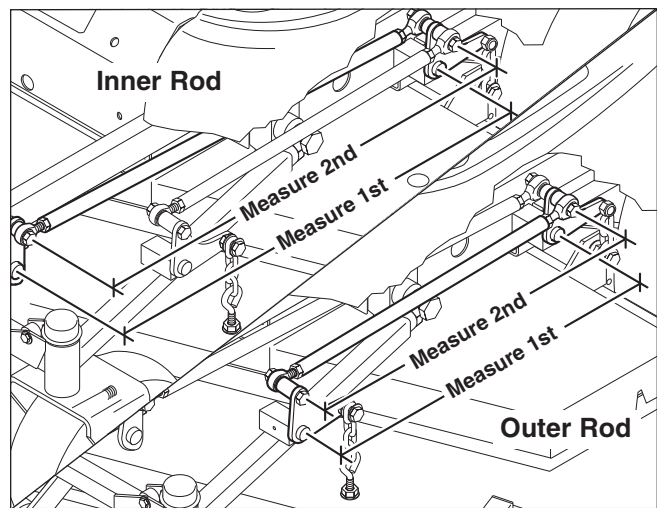

Figure 39. Measure the Inner & Outer Lift Rods
2. To check the inner lift rod timing, measure and record the distance between the inner lift pivots and the inner rod pivots. Repeat for other side of unit. See Figure 39.
3. To check the outer lift rod timing, measure and record the distance between the outer lift pivots and the outer rod pivots. Repeat for other side of unit. See Figure 39.